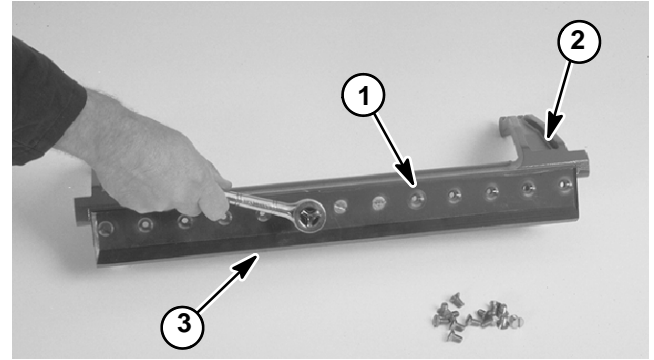

Figure 40
2. Remove screws from bedbar using a socket wrench and bedknife screw tool (see Special Tools). Discard screws. Remove bedknife from the bedbar (Fig. 40).